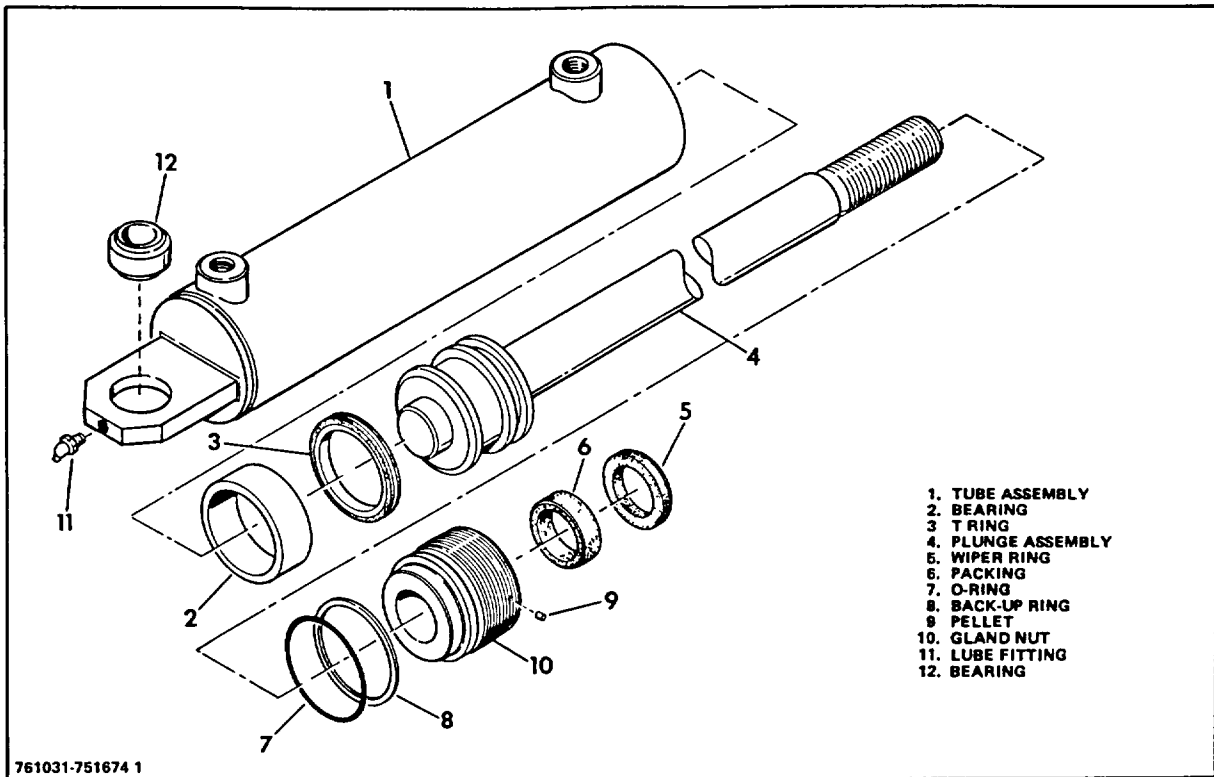

Figure 2-3. Power Steer Cylinder Assembly (Fixed Piston)
5. To disassemble fixed piston cylinders (Fig 2-3), proceed as follows:
1. To assemble a fixed piston cylinder (Fig 2-3), proceed as follows: